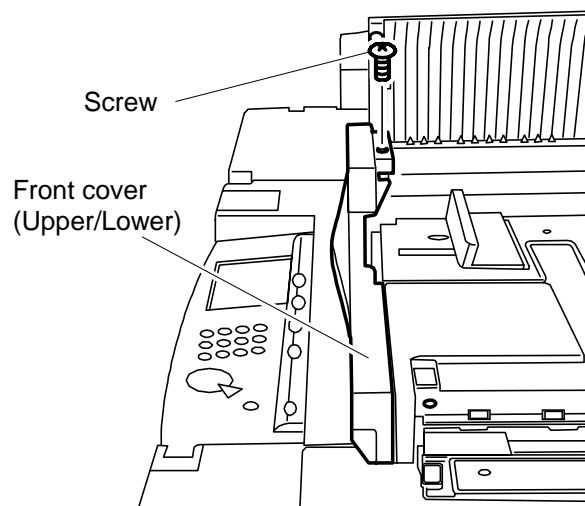

Fig. 4
- 3) Remove the 1 screw from the upper cover assembly, and remove the front cover (upper/lower). (Fig. 4)